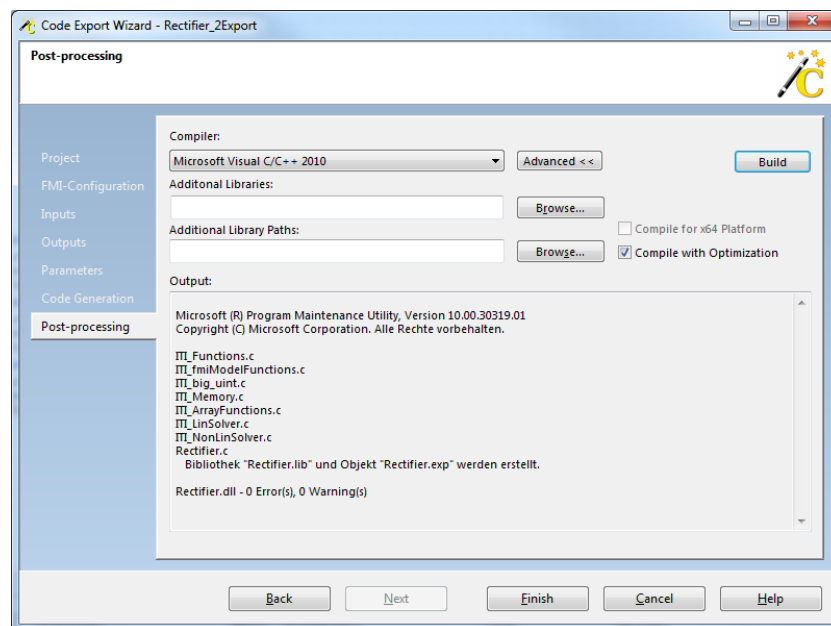

Figure 5: Post-Processing page of Code Export after build process has finished.
14. In the Post-Processing Tab, the actual FMU will be generated. Choose compiler "Microsoft Visual C/C++ 2010" and hit "Built". The code will be generated and the output window will show the progress. Two build routines will run since the FMU is supposed to be compatible to both win64 and win32 platforms. After the build process has completed, the output according to Figure 5 will show up. Hit finish.